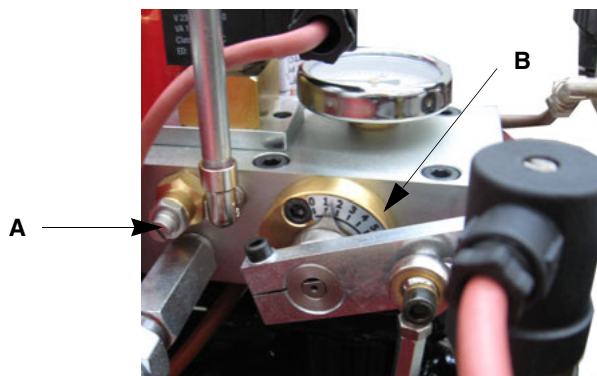

Fig. 24
- Remove and clean the compressed air regulator A in Fig. 24
- Remove and clean the oil regulator B in Fig. 24